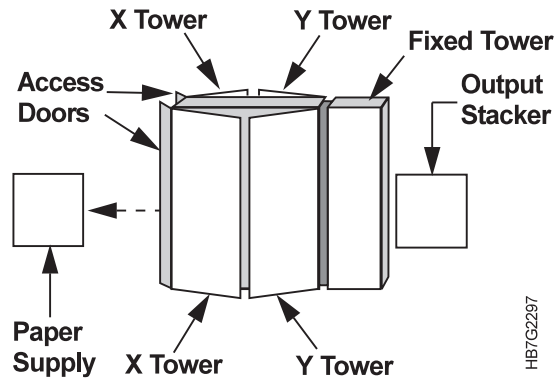

Figure 243. Right Side View of the InfoColor 70
**25** Close the access doors behind the paper supply, as shown in Figure 243 on page 323.